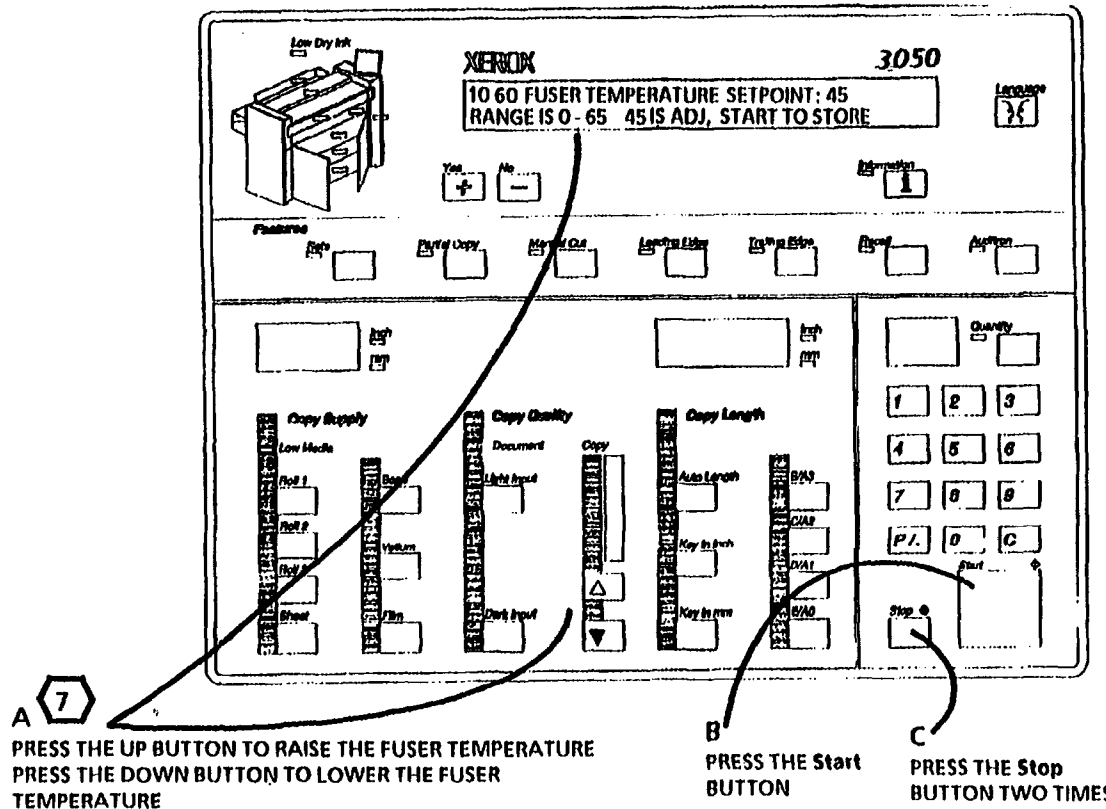

Figure 6. Adjust the Fusing Temperature
2. (Figure 6): Adjust the fusing temperature.